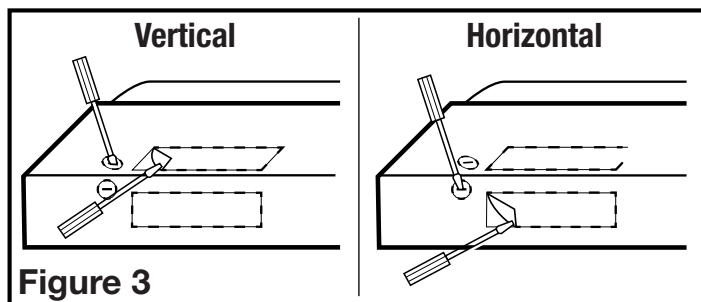

Figure 3
- Remove the appropriate square knockout by inserting a screw driver under the edge and break the tabs holding it in place. Peel back with pliers (**Figure 3**).
- Determine where the electrical service will enter the hood and remove the appropriate electrical knockout by inserting a screw driver into the slot and rocking back and forth until the knockout comes loose (**Figure 3**).